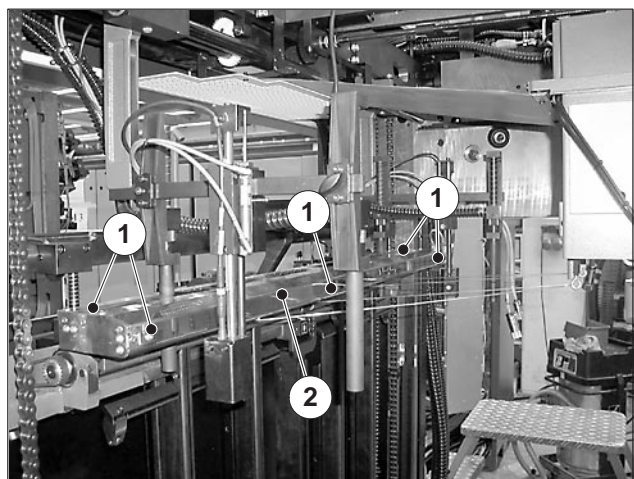

Fig. 45 Screws on the cover plate
3. Loosen the five screws (Fig. 45/1) on the cover plate (Fig. 45/2).